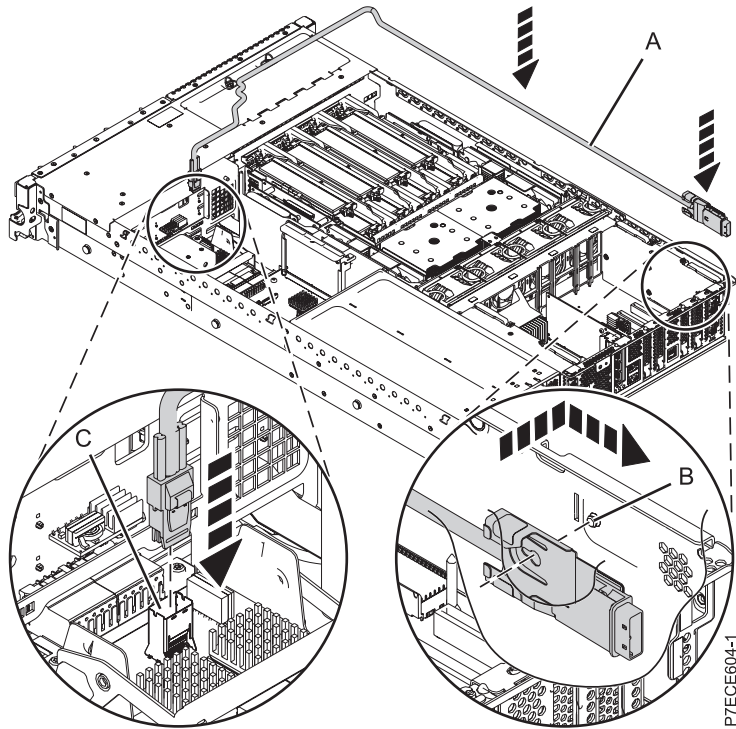

Figure 60. Replacing the SAS cable
- 1) Connect the mini-SAS connector of the SAS cable to the internal SAS connection port (C) on the storage interposer until it snaps in place. See Figure 60 on page 69.
- 2) Route the cable (A) in front of the memory riser cage, and along the channel in the side wall until the SAS port connector is near the opening on the rear of the chassis.
- 3) Align and guide the slot in the bracket of the SAS port connector (B) over the guide pin in the chassis, then slide the SAS port connector into the opening on the rear of the chassis until the tab on the bracket snaps in place.